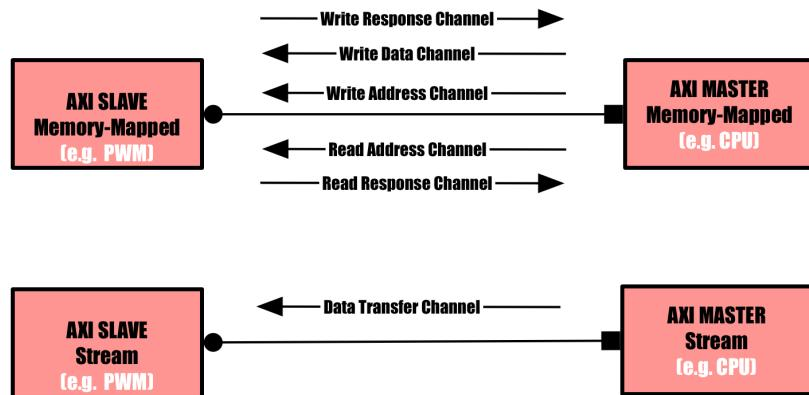

Figure 3: AXI Memory Mapped and AXI Stream arhitecture
As we have talked about customization per application, you can use two types of advanced eXtensible interfaces (AXIs): AXI Stream and AXI Memory Mapped (MM). Basically, a simple application such as computation of some stream of data can make use of AXI Stream, while a more complex one (e.g. writing on a memory) might need access to addresses (so AXI MM comes in place). Their diagrams can be seen in Figure 3. In our case, we will use an AXI Memory Mapped architecture, and PWM (Pulse Width Modulation) slave module to control LEDs and a buzzer.
and contains an instantiation of the *PWM_v1_0_S00_AXI.vhd* where the logic is implemented. If you open *PWM_v1_0_S00_AXI.vhd*, you will see the registers specific to the AXI-Memory Map architecture (Figure 3). In addition, the user can add its own logic and signals. Thus, you can see the implementation of PWM outlined by the following comments: